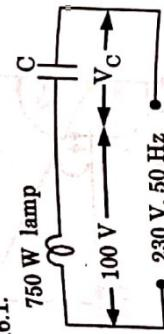

Fig. 2.16.1.
1. Let pure capacitor C farads be connected in series with the lamp shown in Fig. 2.16.1.